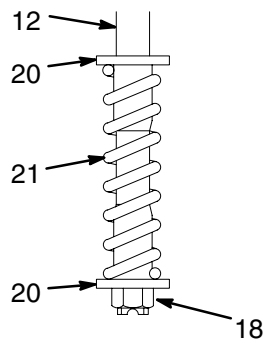

Fig. 8
8. Visually inspect the spring (21). If there is wear or damage, proceed with this step. Remove the nut (18), spring (21), and retainers (20) from the trip rod (12). Reassemble with a retainer (20) on each end of the new spring (21). You must thread the nut onto the rod until it runs out of thread, so that it bottoms out on the shoulder of the rod. See Fig. 8.